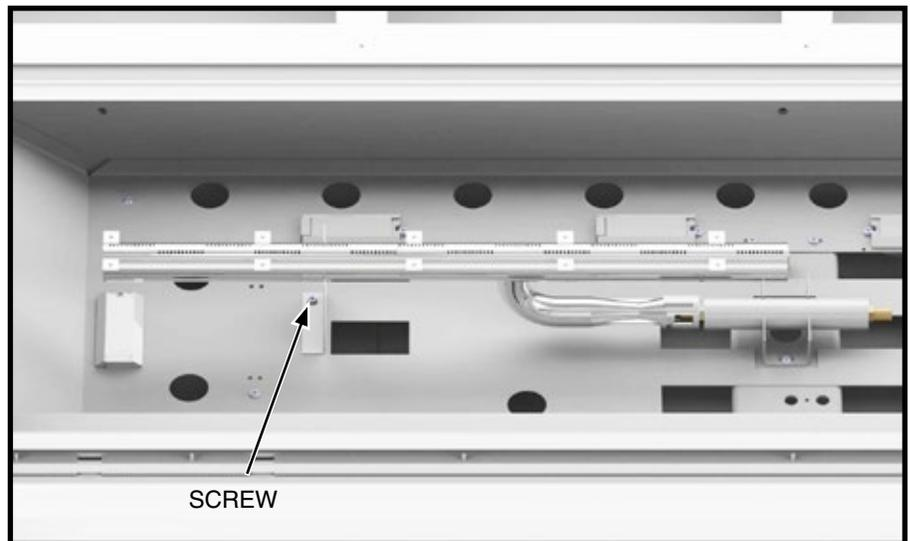

Figure 73: Installing first of two burners.
5. Place the first burner as shown in Figure 73. Be sure to engage the venturi fully onto the orifice. Secure with single screw in burner support leg. Repeat with other burner.